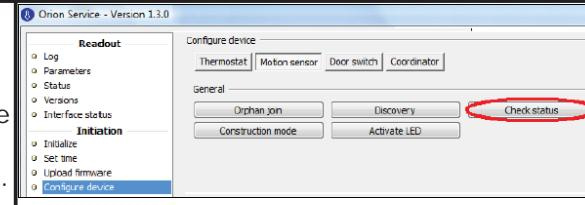

Figure 65
6. Wait a few seconds and then click the **Check status** button in the **Motion sensor** tab of **Configure device**; see *Figure 65*. If the device has joined successfully, the message 'Device is online' is shown. If that message is not displayed, wait a few more seconds and check the status again. If still offline, repeat the discovery process.